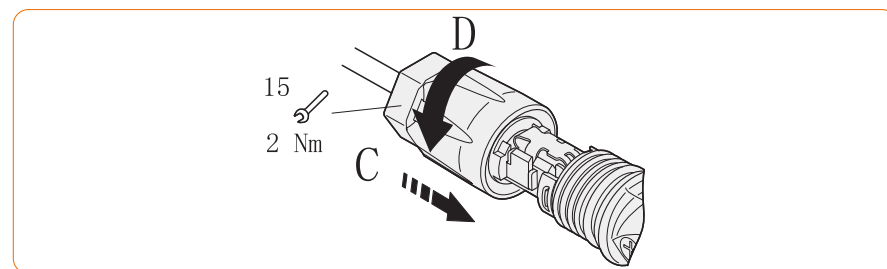

Figure 4-25
- ⑤ Push the battery connector to the thread joint, and use an open wrench to lock the connector in a torsion of 2Nm tightly, as shown in Figure 4-25: